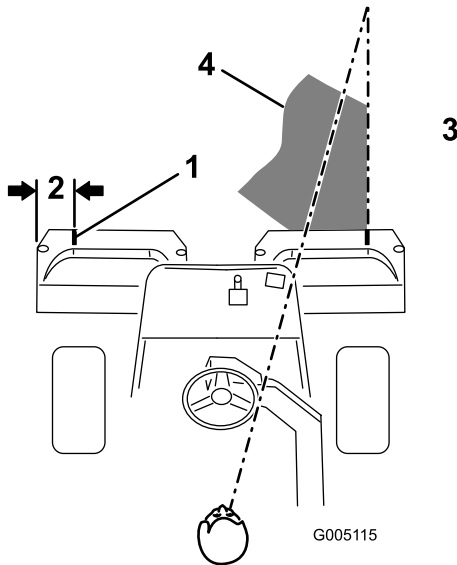
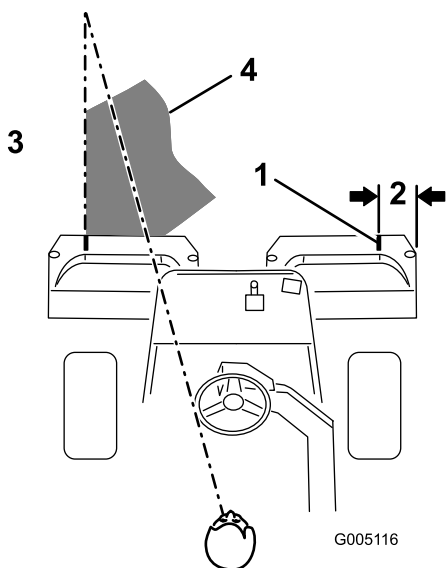

Figure 22
Figure 23
- Either place a strip of white tape or paint a line onto each basket paralleling the outer edge of each basket (Figure 22).
- Overlap a minimal amount with the previous cut on return passes. To assist in maintaining a straight line across the green and keep the machine an equal distance from the edge of the previous cut, establish an imaginary sight line approximately 6 to 10 ft (1.8 to 3 m) ahead of the machine to the edge of the uncut portion of the green (Figure 22 and Figure 23). Some find it useful to include the outer edge of the steering wheel as part of the sight line; i.e. keep the steering wheel edge aligned with a point that is always kept the same distance away from the front of the machine (Figure 22 and Figure 23).